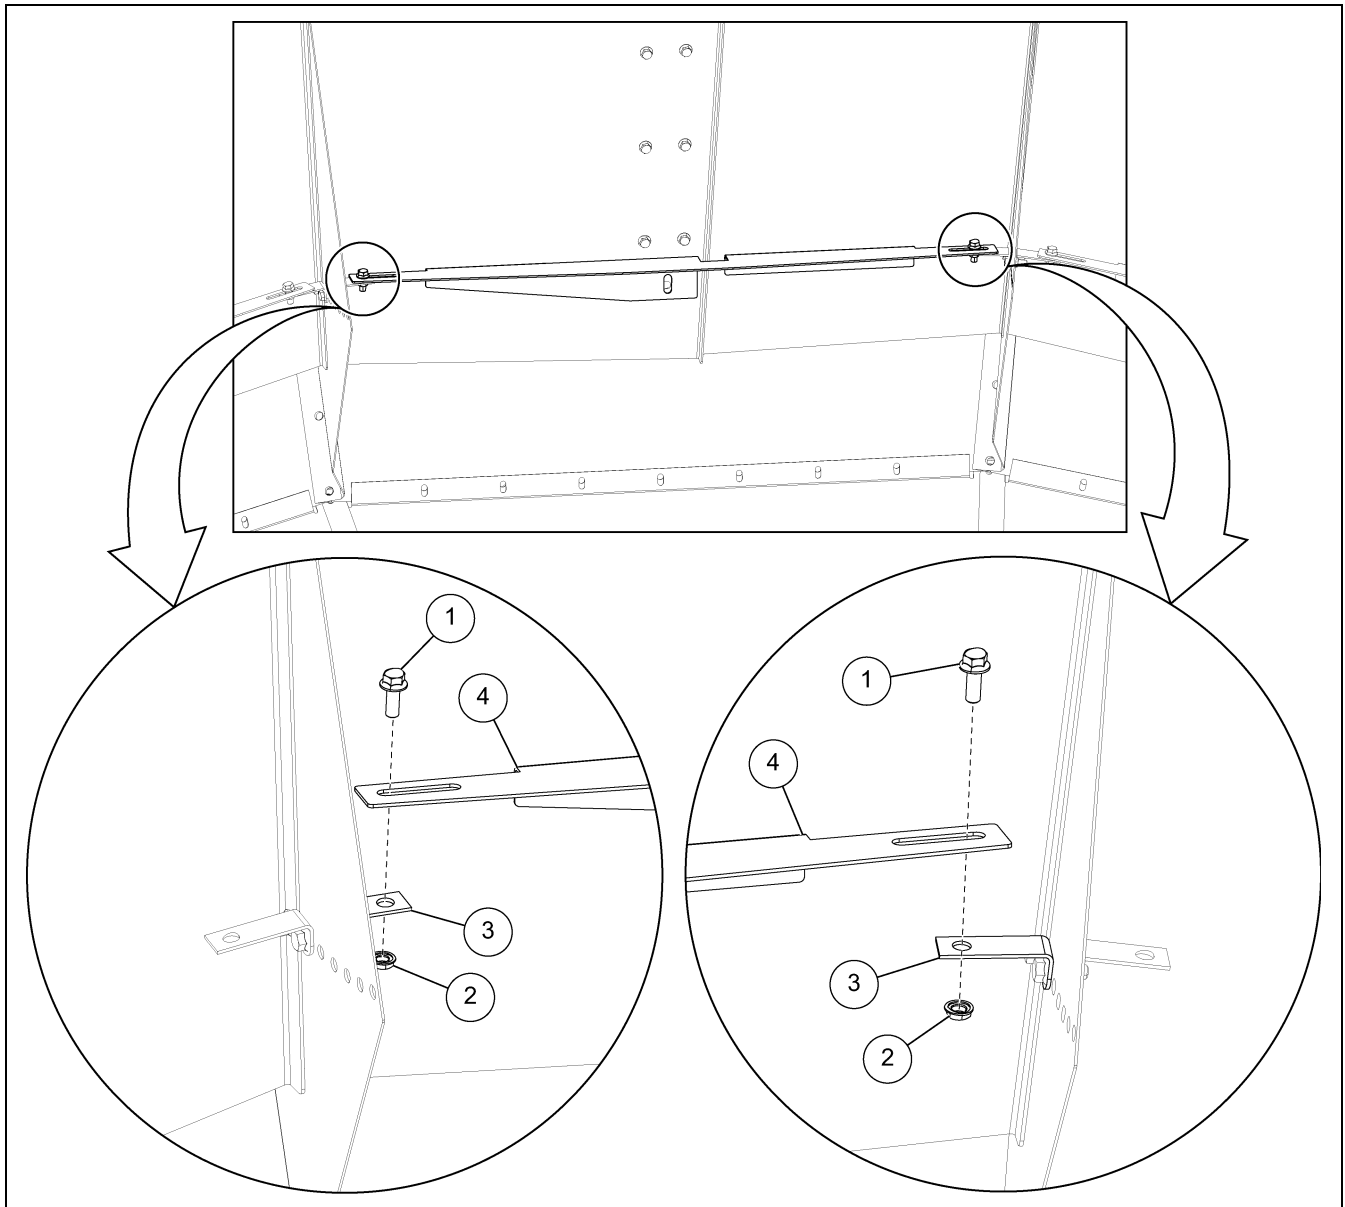

Figure 2 *Installing the Brake Brace to the Brace Clips*
3. Install a brake brace (4) to the pair of brake brace clips (3) between each hopper channels using 3/8" x 1" flange bolts (1) and 3/8" flange nuts (2). (See Figure 2.)